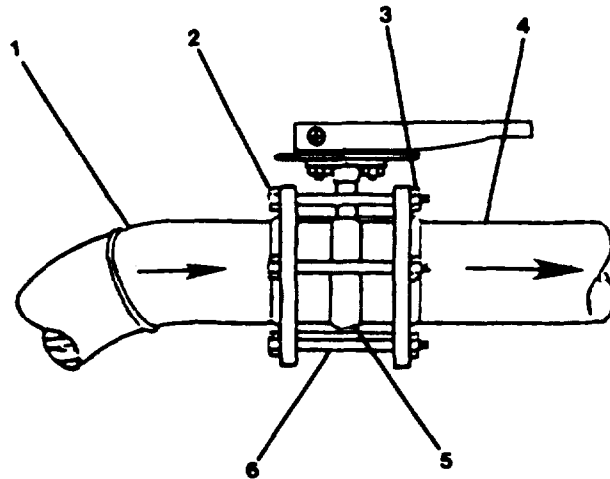

FIGURE 2-262. Repair Butterfly Valves (Typical).
- (1) Trace inlet piping (1, FIGURE 2-262) to nearest manually operated shutoff valve.
- (2) Close shutoff valve.
- (3) Trace outlet piping (4) to nearest manually operated shutoff valve.
- (4) Close shutoff valve.